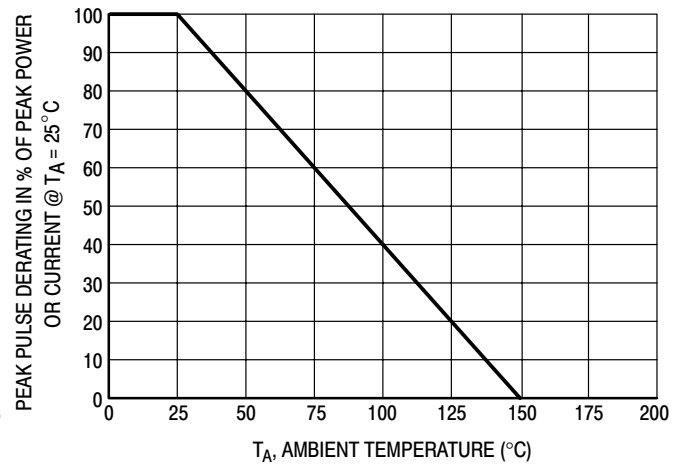
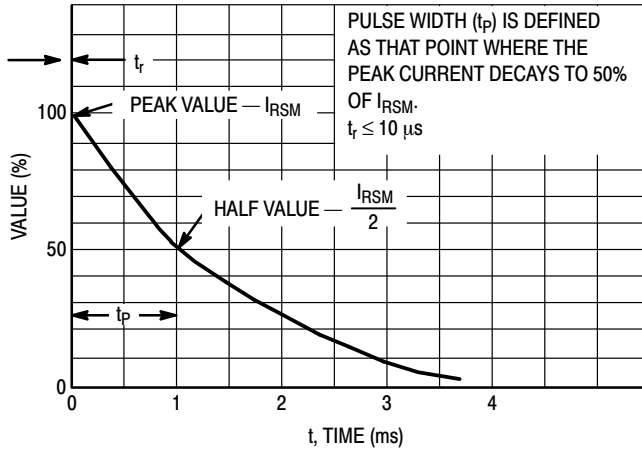
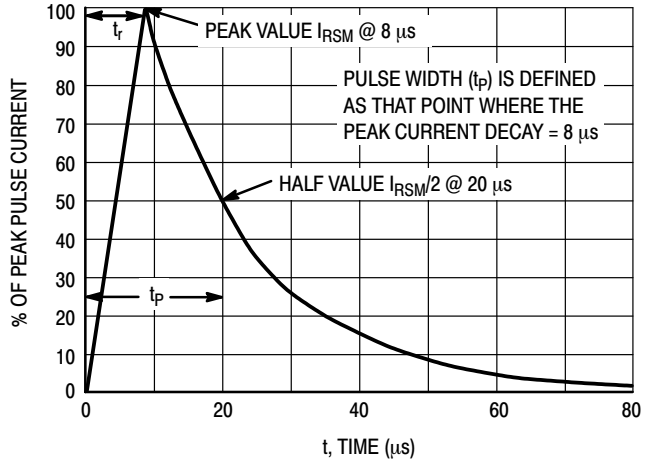

Figure 4. Pulse Derating Curve
Figure 5.  $10 \times 1000 \mu\text{s}$  Pulse Waveform
Figure 6.  $8 \times 20 \mu\text{s}$  Pulse Waveform
1. Nonrepetitive current pulse per Figure 5 and derated above  $T_A = 25^\circ\text{C}$  per Figure 4
2. Nonrepetitive current pulse per Figure 6 and derated above  $T_A = 25^\circ\text{C}$  per Figure 4
7. Surge current waveform per Figure 5 and derate per Figure 4